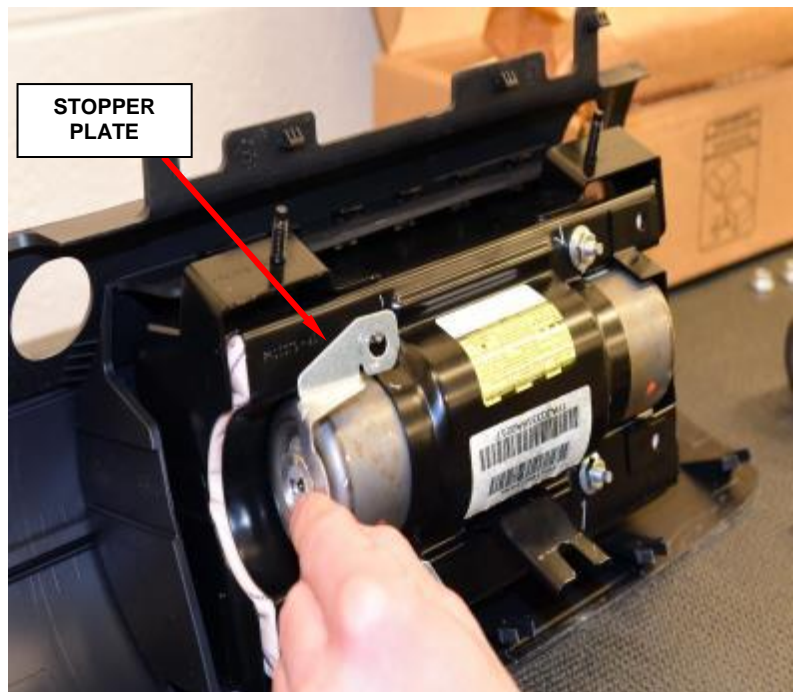

Figure 130 – Stopper Plate
c. Remove and save the stopper plate from the passenger airbag module (Figure 130).